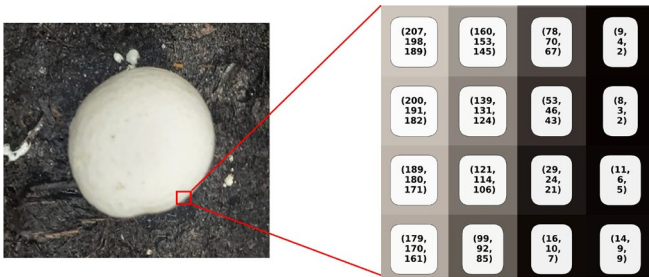

Figure 4. A mushroom against a dark background shows a sudden change in brightness, which the algorithm uses to mark the edge or boundary.
- Finding edges:** The algorithm scans the grayscale image to find sudden changes in brightness. For example, a white mushroom cap against a dark soil background creates a clear boundary, where bright pixels from the mushroom are placed right next to dark pixels from the soil. By comparing nearby pixels, the algorithm marks these changes as edges. It then draws the outline of each shape in the picture, such as the boundary of a mushroom shown in Figure 4.